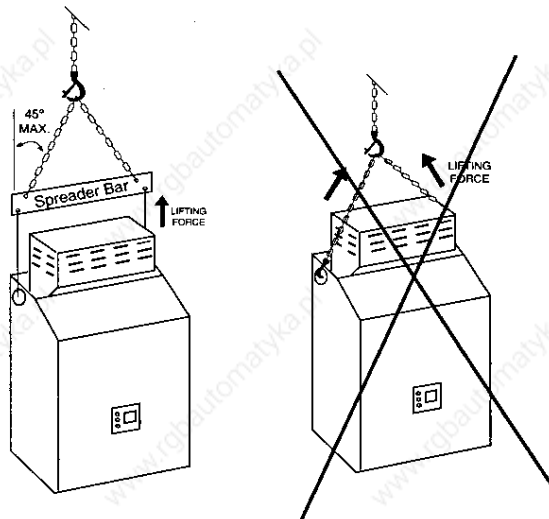

Figure 5 Hoisting the Starter
- With a hoist. When hoisting starters, attach a spreader bar to the two lifting rings on top of the starter as shown in Figure 5.
HANDLING AND LIFTING HAZARD Keep area below any equipment being lifted clear of all personnel and property. Use lifting method shown in Figure 5. Failure to follow this instruction can result in death or serious injury.